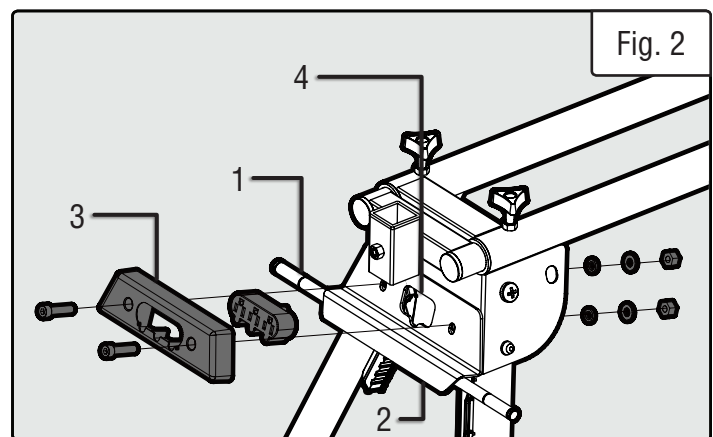

Fig. 2
1. Place wheel axle bar (Fig. 2 - 1) into wheel axle bar slot (Fig. 2 - 2).
2. Install power block (Fig. 2 - 3) into power block slot (Fig. 2 - 4).